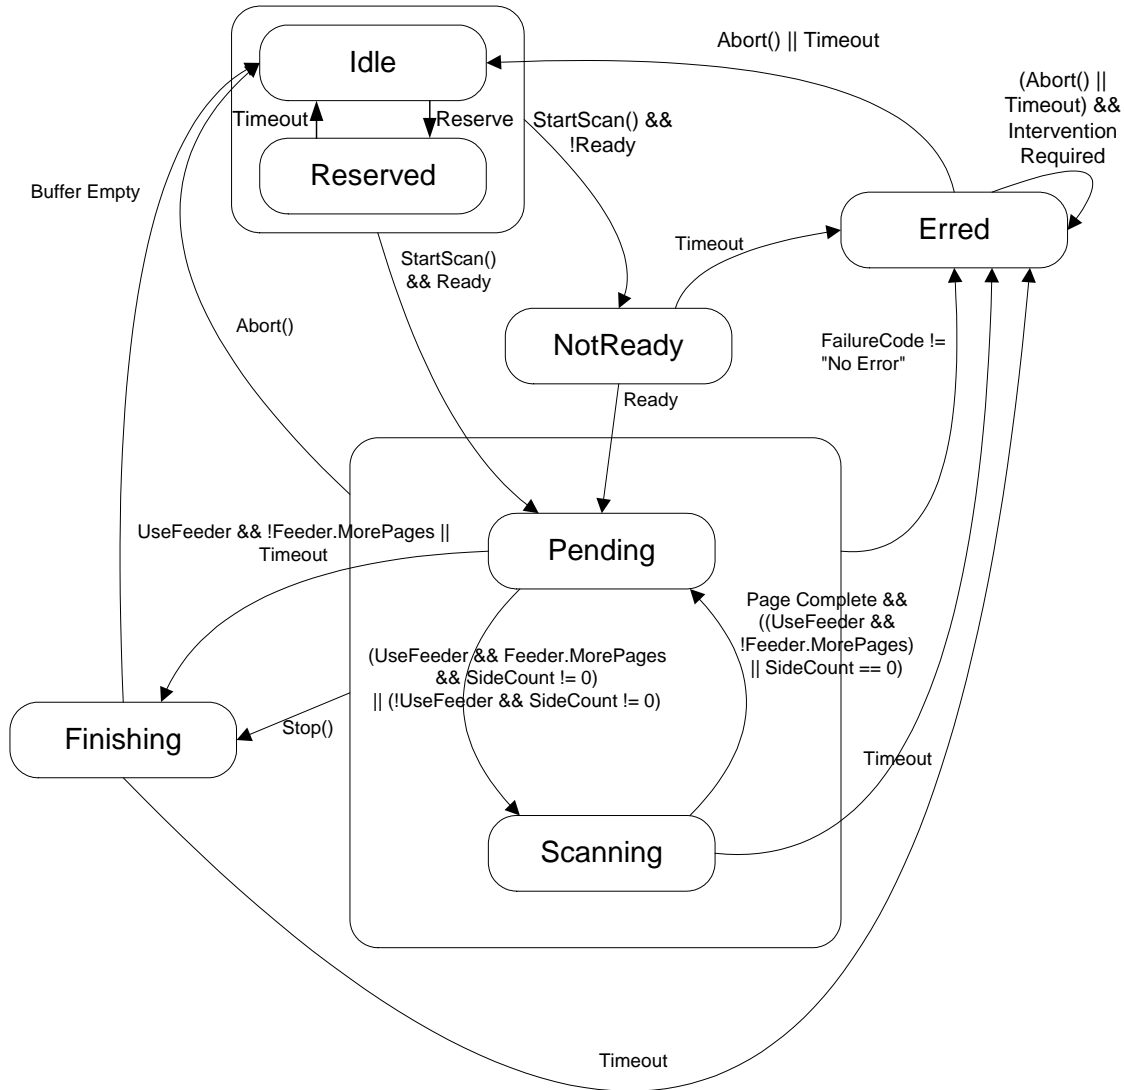

Figure 2 - Scanner State Transition Diagram
The scenario represented in this section involves a scanner without a feeder that is used by a UCP that will pull the images when they are available. The state transition diagram shown in Figure 2 below describes the operation of the Scan Service. A client should follow the flow of events below to perform a scan:
The scenario represented in this section involves a scanner without a feeder that is used by a UCP that will push the images to a given destination when they are available. The state transition diagram shown in Figure 2 below describes the operation of the Scan Service. A client should follow the flow of events below to perform a scan:
The Scan Service is used to operate a scanner device. A scanner device is used to convert a user-supplied document into a digital image. The following example shows a scenario where a scanner with a feeder is used to scan multiple pages. The UCP initiates the scan with UseFeeder set to true (1) and pulls all of the image data from the scanner. The state transition diagram shown in Figure 2 below describes the basic operation of the Scan Service. A client should follow the flow of events below to perform a pull scan:
- 2) Assuming that there are documents in the feeder, the client starts a scanner operation using the StartScan action with bUseFeeder=true (1), SideCount > 0, BaseName="buffer". All of the parameters will be validated before any settings are changed. If all are valid, then the values are set and the scan operation begins. The order of validation is vendor specific. The state value will change from Idle to Pending (possibly going through the NotReady state in the process).
- a) remain in Scanning state (i.e. Repeat Step 4) if Feeder.MorePages is true (1), and SideCount != 0
- i) Feeder.MorePages is false (0)
The scenario represented in this section involves a scanner with a feeder that is used by a UCP that wants the images sent when they are available. The state transition diagram shown in Figure 2 below describes the operation of the Scan Service. A client should follow the flow of events below to perform a scan: